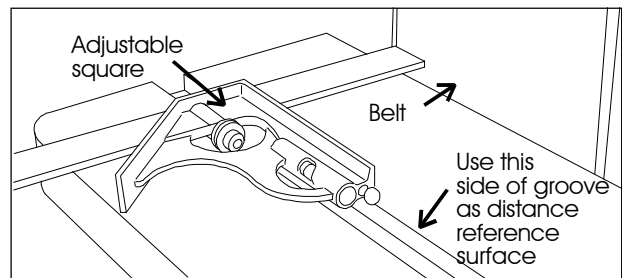

Figure 8: Checking miter slot parallelism
3. Place a scale or adjustable machinist's square against either the left or right edge of the belt or platen and measure the distance of the belt or platen to the miter slot edge. (Refer to Figure 8.)
5. If adjustment is required, turn the adjusting screw (Figure 8) until the table is exactly square to the platen.